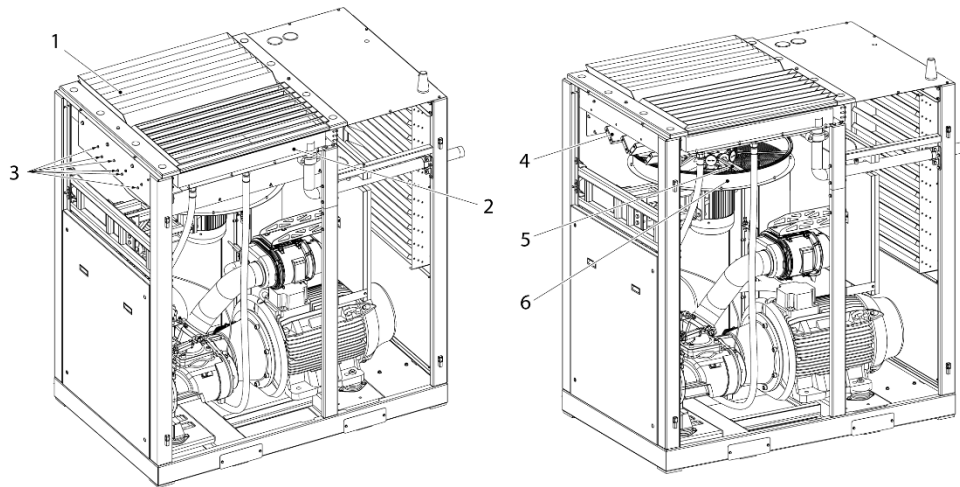

Figure 2-11B Fan Motor Replacement (Top)
1. Remove the louver (-1-, Fig. 2-11B), cooler (-2-, Fig. 2-11B), and the internal baffles (-4-, Fig. 2-11B) by removing the bolts and other hardware.
2. Slide and remove the fan blade assembly (item 5) by loosening the two set screws
3. Remove the fan shroud (item 6) and the guard from the front side or back side of the unit by removing mounting bolts